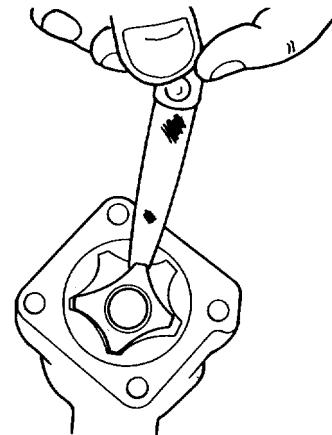

Figure 5-48. Inner Rotor Clearance.
- (a) Check the clearance between the inner and outer rotors (see Figure 5-48).